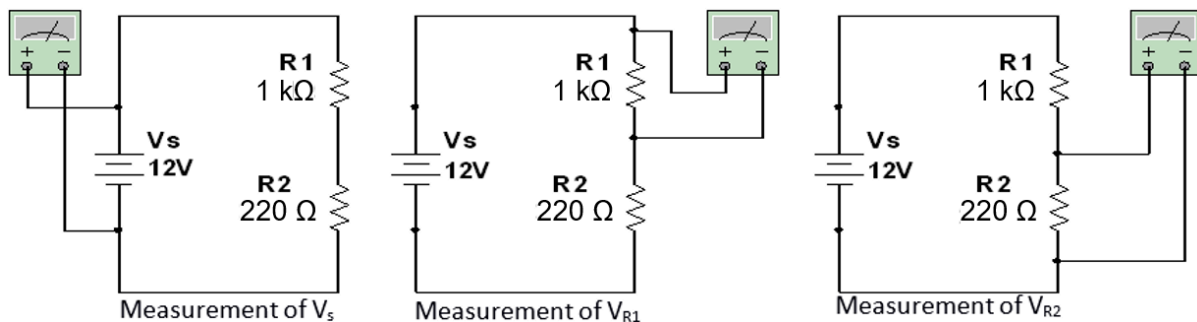

Figure 28: The three voltage measurements to be performed on the circuit
There are three voltages around the circuit to be measured, as shown in Figure 28.
- Repeat this process to make measurements of the voltages across R_1 and R_2 , V_{R1} and V_{R2} , as shown in the middle and right of Figure 28. You can measure the voltage across R_1 and R_2 in a similar way by using the multimeter across the components R_1 and R_2 .